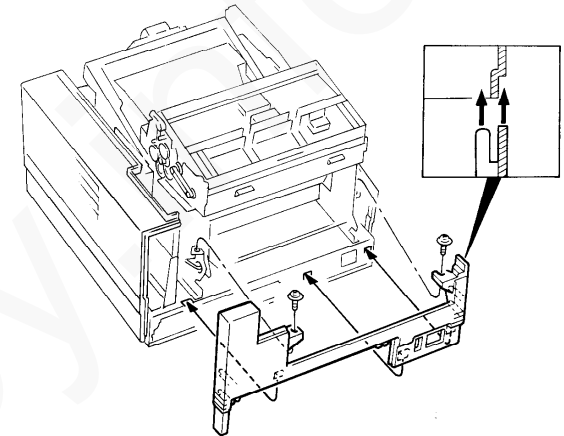

Figure 2. Left cover
4. Remove the two screws retaining the left cover to the chassis (figure 2).